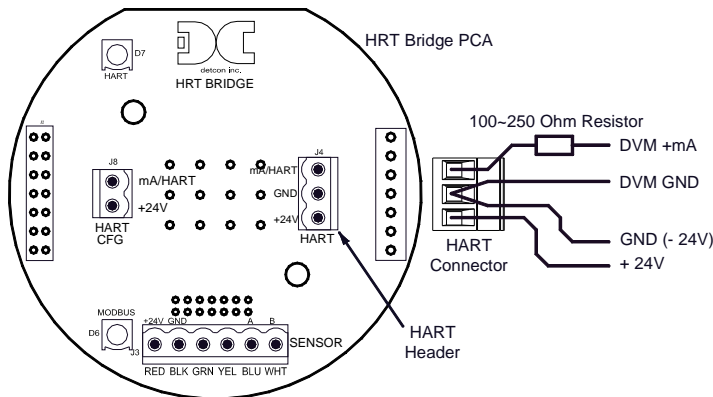

Figure 8 DVM Connection
- 2) The procedure will prompt to connect a meter: (Refer to Figure 8.)
- 1) Ensure that the DVM is connected as prescribed in Figure 8:
- d) Connect the negative lead (-) of the DVM to the GND position of the connector. (Figure 8)